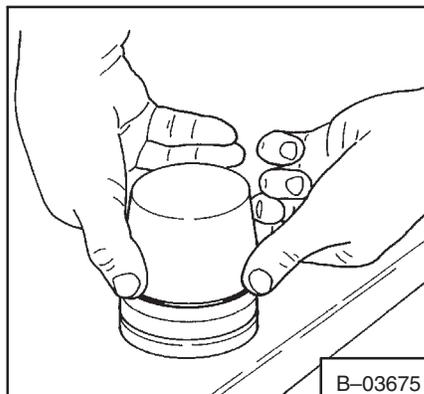

**Fig. 2-57** Removing O-Ring
14. Remove the O-ring from the piston (Fig. 2-57).